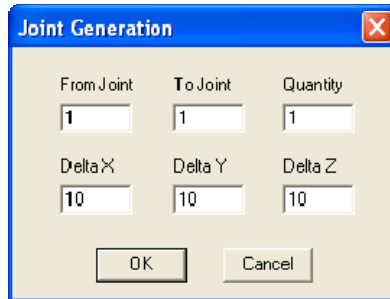

Figure 3-19 Joint Generation dialog box
- In the JOINTS dialog box, choose the GENERATE button (this command button will be dimmed if no joints are input). The dialog box of Figure 3-19 appears. Some text boxes may not be available, depending on the structure type selected.